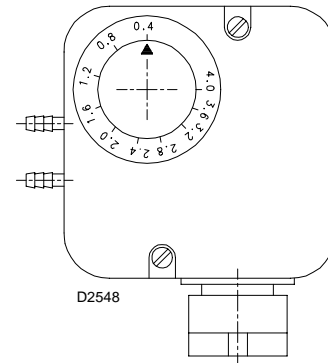

Fig. 37
- Adjust the air pressure switch to the zero position of the scale (Fig. 37).
Adjust the air pressure switch after having performed all other burner adjustments with the air pressure switch set to the start of the scale (Fig. 37).